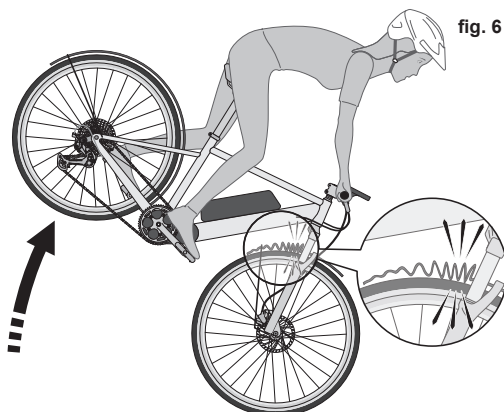

fig. 6
**WARNING:** Any object that unexpectedly and abruptly stops the rotation of the front wheel can cause the e-bike and rider to pitch forward (fig. 6), which can result in serious injury or death.